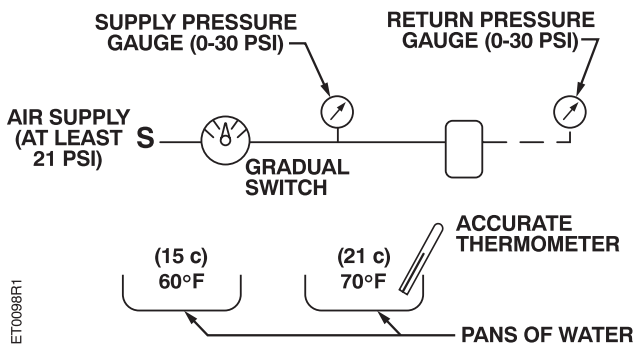
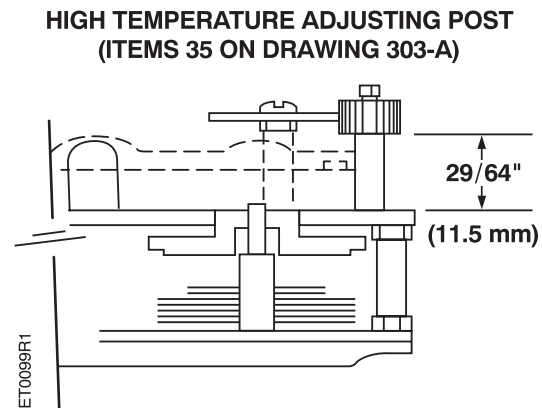

Figure 1. Test Equipment.
Figure 2.
(See Figure 1)
1. Obtain and set up test equipment shown in *Figure 1*.
3. See that friction spring (53) is in position.
5. Remove both day (47) and night (51) temperature dials.
6. Turn day (high temperature) (48) adjusting post until the distance from the top of the lever bearing plate to the bottom of the dial pinion is 29/64" (11.5 mm) as shown in *Figure .2*
7. Completely immerse thermostat in 70°F (21°C) water with supply pressure 18 psi (124 kPa). Carefully turn valve adjusting screw (35) until return pressure is 7-1/2 psi (51.7 kPa). Allow several minutes to ensure that entire thermostat has reached this temperature.